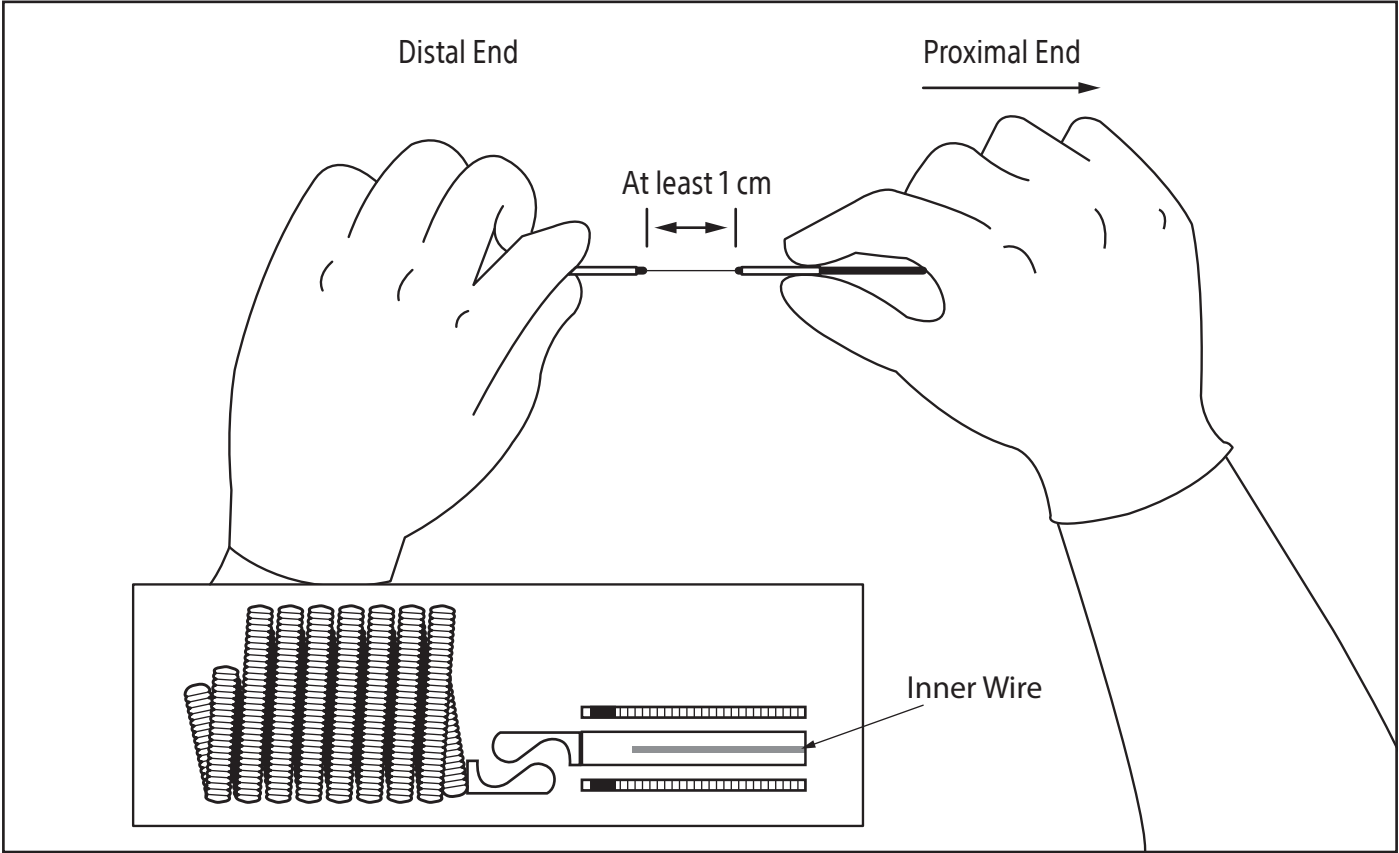

Figure 9. Inner wire retraction to complete coil detachment
3. Retract only the proximal segment of the delivery wire until at least 1 cm of the inner wire is exposed to complete the coil detachment (Figure 9).